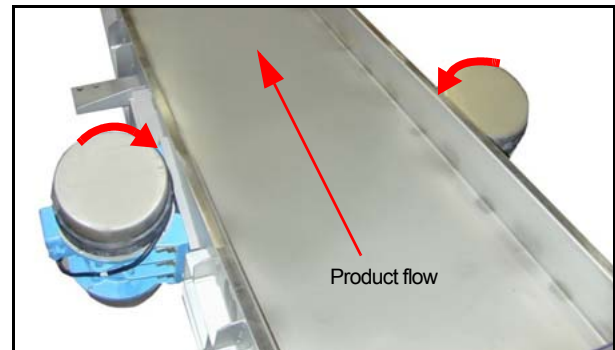

Figure 3-14 Rotation of Vibratory Motors
4. If your shaker uses vibratory motors, one motor must rotate clockwise and the other counterclockwise (Figure 3-14). Weights for vibratory motors are set at the factory to achieve the desired stroke. Verify stroke after startup.